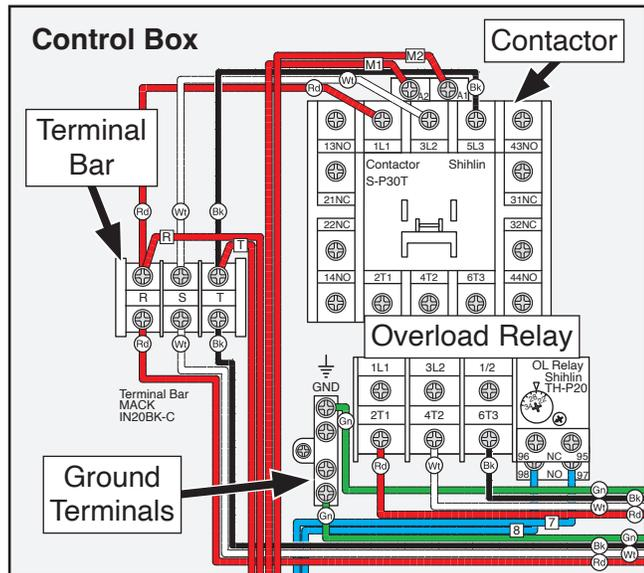

Figure 9. Wires to disconnect and remove at both ends in control box.
- Disconnect and remove all wires at both ends connected to terminals on the terminal bar, contactor, overload relay, and ground terminals inside control box (see **Figure 9**).